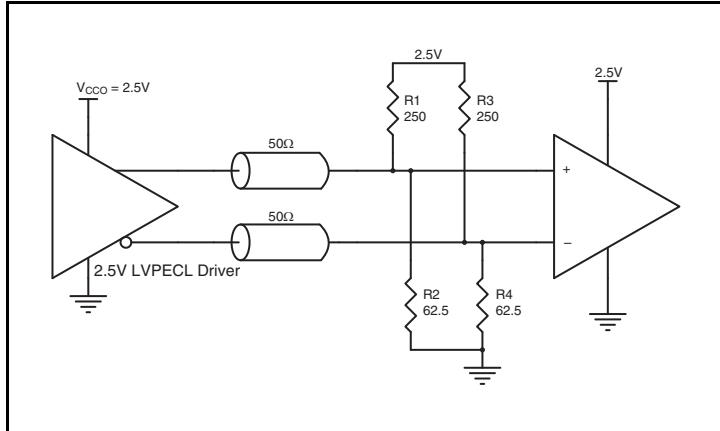
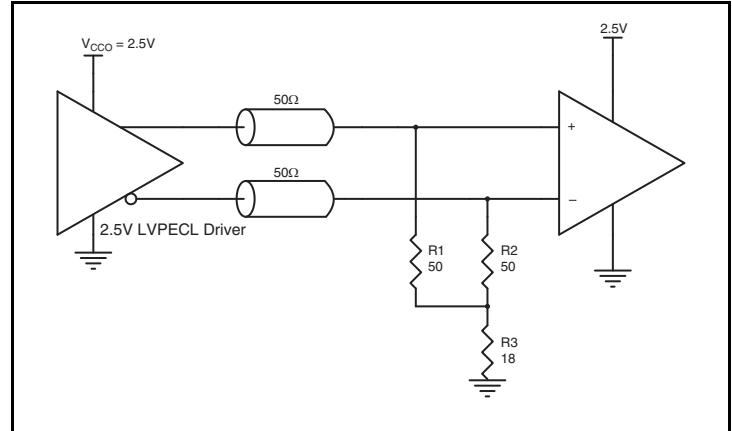
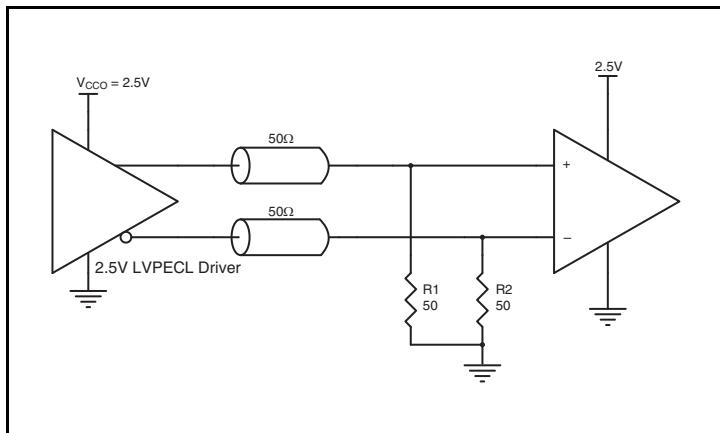

Figure 5A. 2.5V LVPECL Driver Termination Example
Figure 5B. 2.5V LVPECL Driver Termination Example
Figure 5C. 2.5V LVPECL Driver Termination Example
Figure 5A and Figure 5B show examples of termination for 2.5V LVPECL driver. These terminations are equivalent to terminating  $50\Omega$  to  $V_{CCO} - 2V$ . For  $V_{CCO} = 2.5V$ , the  $V_{CCO} - 2V$  is very close to
-LVC MOS ground level. The R3 in Figure 5B can be eliminated and the termination is shown in Figure 5C.